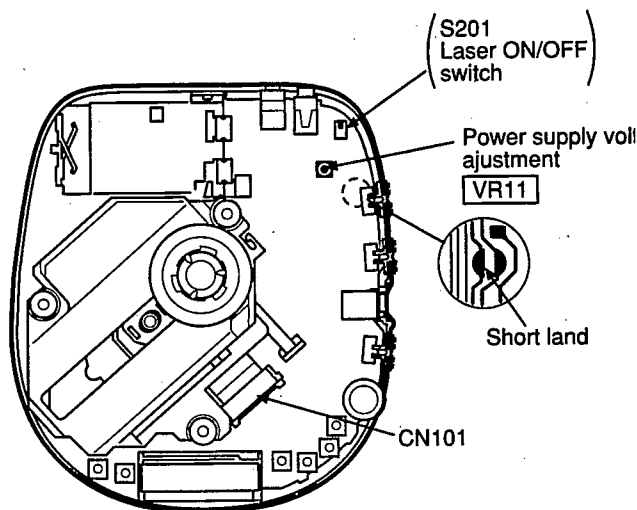

Fig. 1
Short-circuit the lands of the laser ON/OFF switch (S201) by soldering them. It turns "ON" position. (Refer to below Fig. 1. or printed circuit board and wiring connection diagram for short land location on page 18.)
2. Take care to connect CN101 (as shown in Fig.1).
2. Connect the AC adaptor cord to the DC (IN) port and move the PLAY switch to the ON position. Anti-shock is set in OFF position. (Use a new dry cell battery or a rechargeable battery that is full charged.)
4. Adjust **VR11** on the P.C.B. at $3.12 \pm 0.02V$, as shown in Fig.1.